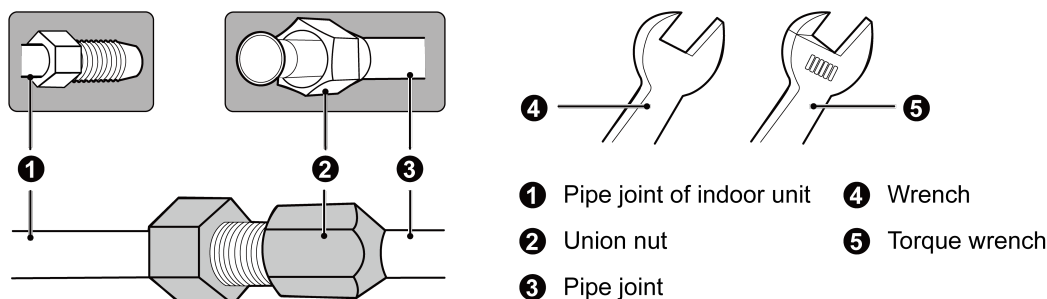

Fig.4.2
- (1) Aim the flaring port of copper pipe at the center of screwed joint and then tighten the flaring nut with hand as shown in Fig.4.2.
- (2) Tighten the flaring nut with torque wrench.